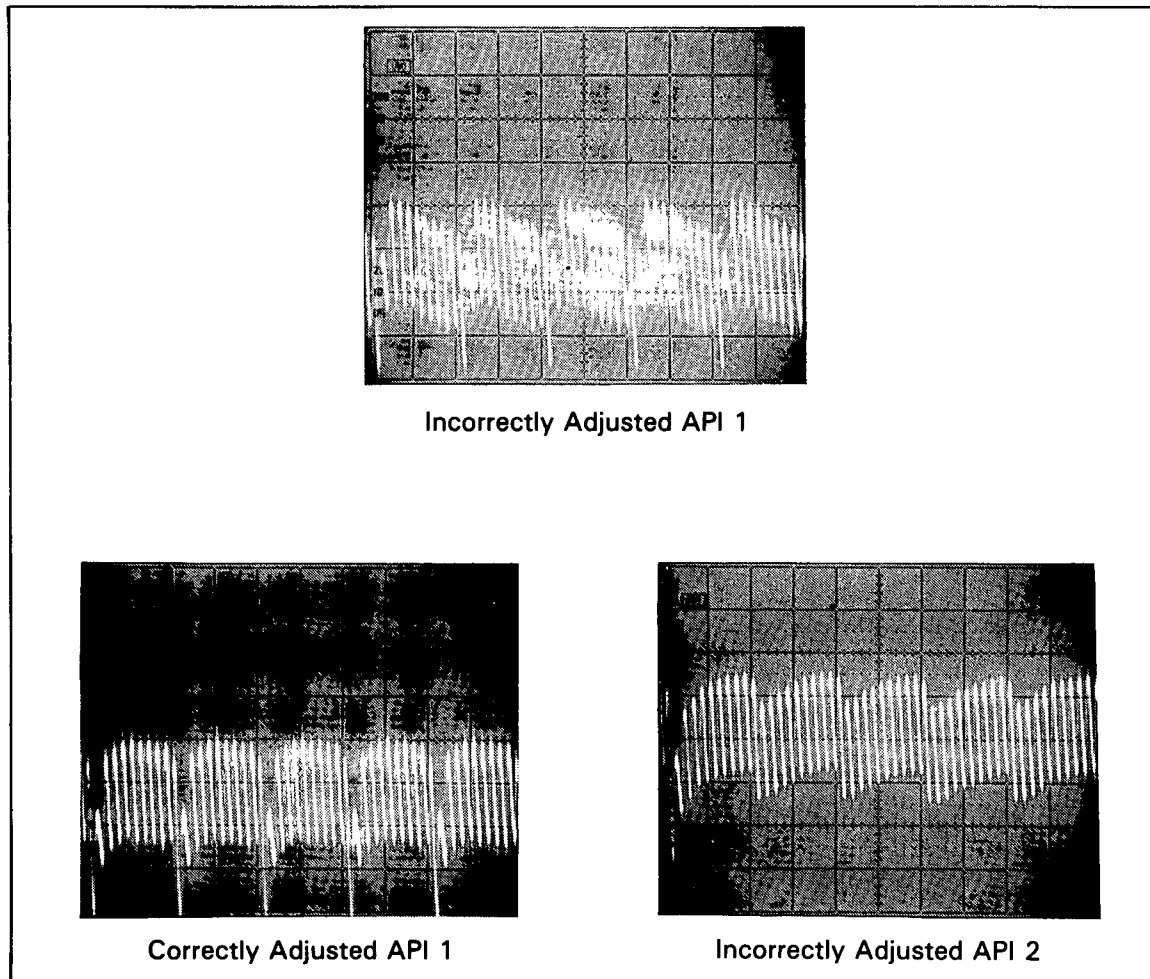

Figure 5-17. API Adjustment Waveforms
n. Adjust A32R49 (API1, see Figure 5-45) for a minimum amount of ripple on the scope waveform. (See Figure 5-17.)
q. Adjust A32R56 (API2, see Figure 5-46) for a minimum amount of ripple on the scope waveform. (See Figure 5-17.)